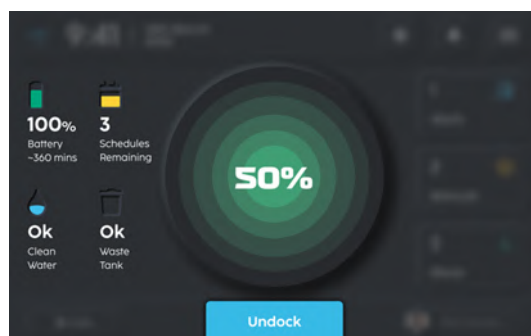

FIGURE 12-9
5. When the machine is able to start charging, the touchscreen will reflect the battery charge status (**Fig. 12-9**).
- When the machine is able to start charging, the touchscreen will reflect the battery charge status (**Fig. 12-9**).
- To undock the machine from the station, select the blue 'Undock' button (**Fig. 12-9**).